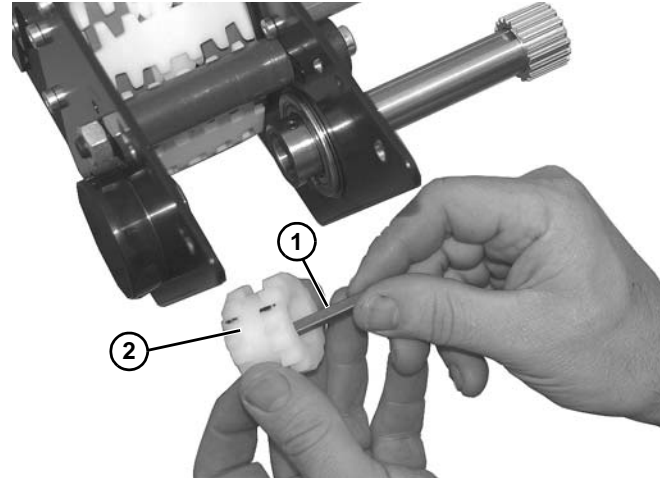

Figure 156
17. Remove key (**Figure 156, item 1**) from sprocket (**Figure 156, item 2**).